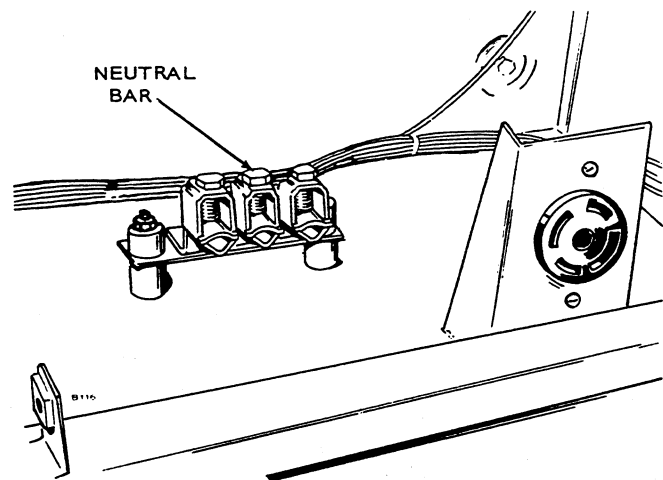

FIGURE 5. INSTALLATION OF NEUTRAL BAR
- Mount the neutral bar to the bottom of the automatic transfer switch cabinet (Figure 5). Table 1 gives the wire size and type the neutral bar will accept.